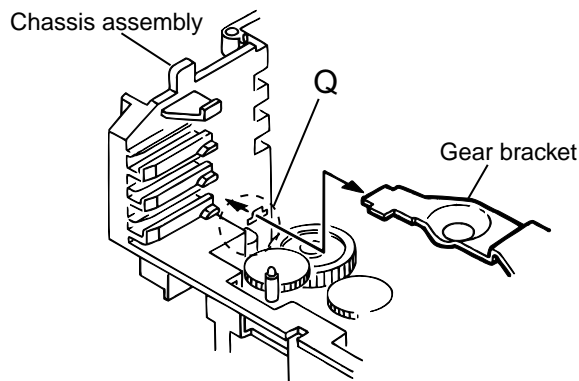

Fig.19
3. From the notch “Q section” on the chassis assembly fixing the edge of gear bracket, remove and take out the gear bracket(See Fig. 19).
4. Remove the belts respectively from the right and left actuator motor pulleys and pulley gears(See Fig. 19).